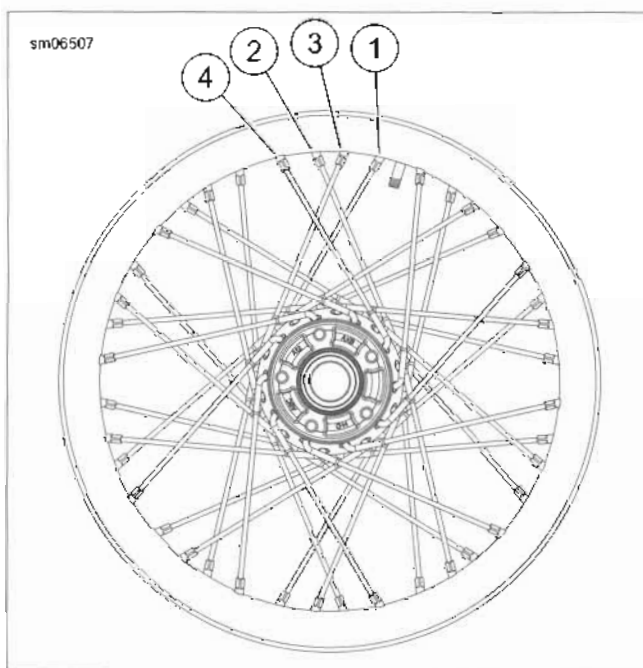

Figure 1-9. Tightening Laced Wheels (typical)
2. See Figure 1-9. Starting at the valve stem, identify the first group of four spokes (1-4).
1. See Figure 1-9. Starting with the first group of spokes, loosen spoke (1) 1/4 turn using SPOKE NIPPLE WRENCH (Part No. HD-94681-80).
2. Using SPOKE TORQUE WRENCH (Part No. HD-48985) tighten spoke (1) to the value listed in Table 1-9.
3. Repeat previous two steps for spoke (4) in the same group.